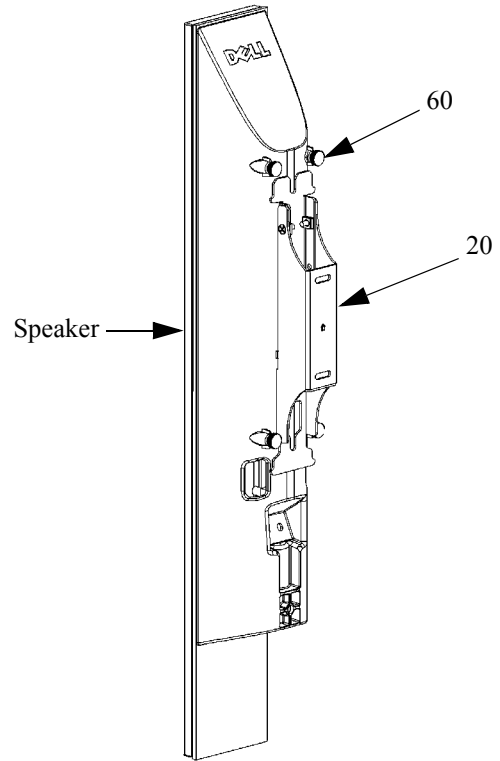

Figure 15. Loosen Four Thumb Screws to Remove Speaker
**NOTE:** Loosen the thumb screws (60) to detach the speaker from the wall bracket. Do not remove the thumb screws from the speaker.
1. While holding the speaker with one hand, loosen the four thumb screws (60) that attach the speaker to the wall bracket (20). See Figure 15.